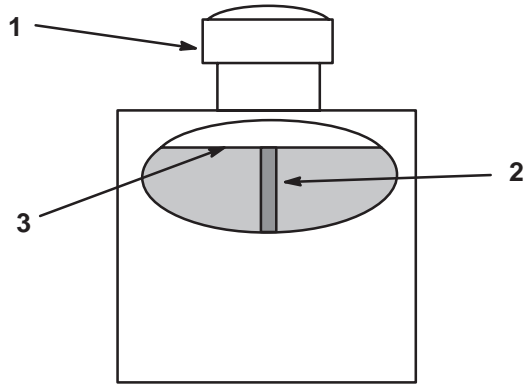

Figure 46
2. Clean area around filler neck of hydraulic tank (Fig. 46).
3. Remove cap from filler neck. Look inside to check if there is fluid in the reservoir (Fig. 46).
Note: Fluid level should be to the top of the baffle when fluid is warm (Fig. 46).